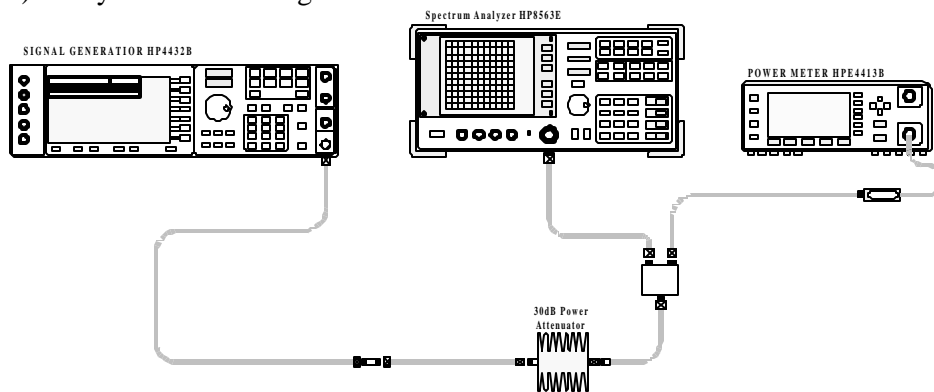

Figure 6 Spectrum Analyzer Calibration Configuration for Forward Link
- 6) Set System as follow Figure 6.